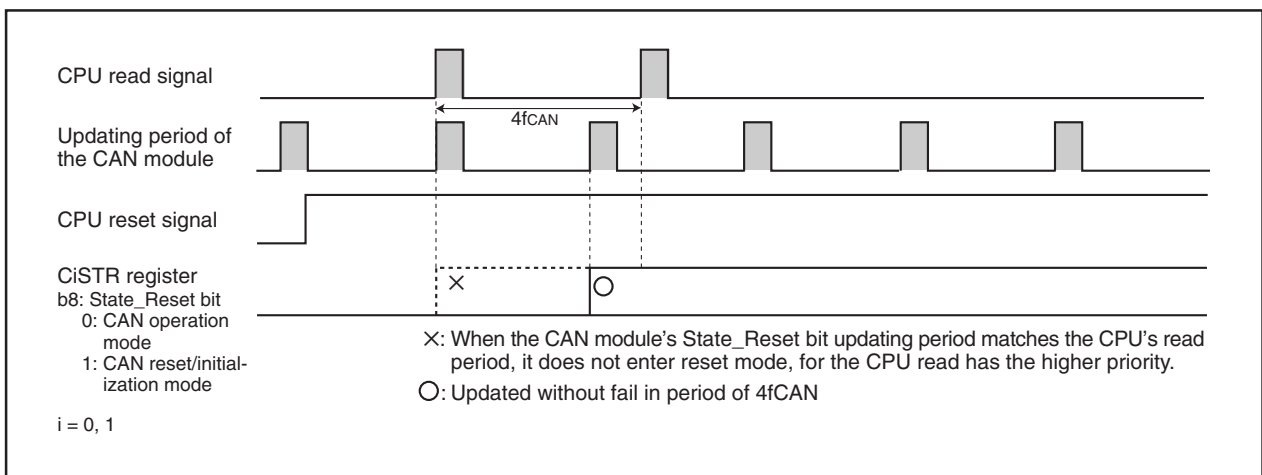

Figure 23.5 When Polling Period of CPU is  $3f_{CAN}$  or Longer
- (b) When the CPU polls the CiSTR register, the polling period must be  $3f_{CAN}$  or longer. (See **Figure 23.5 When Polling Period of CPU is  $3f_{CAN}$  or Longer.**)